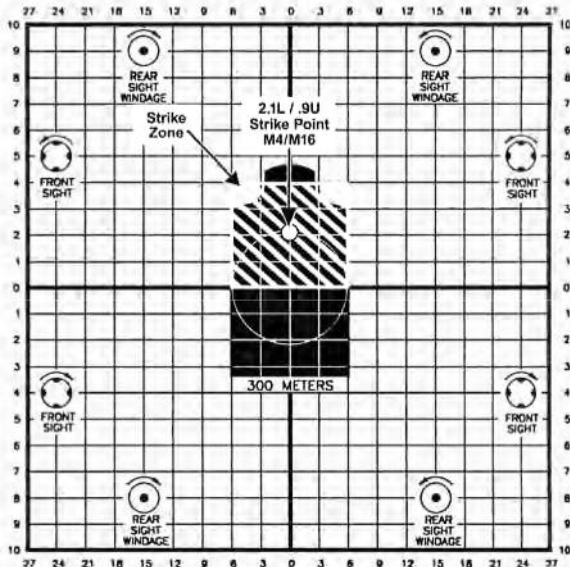

Figure 3-13 25m Zeroing Target
1. On a 25-meter zeroing target M16A2/M16A4, mark the designated strike point and designated 4 cm/6 cm strike zone based on the weapon you are using. See Table 3-6 and Figure 3-13.